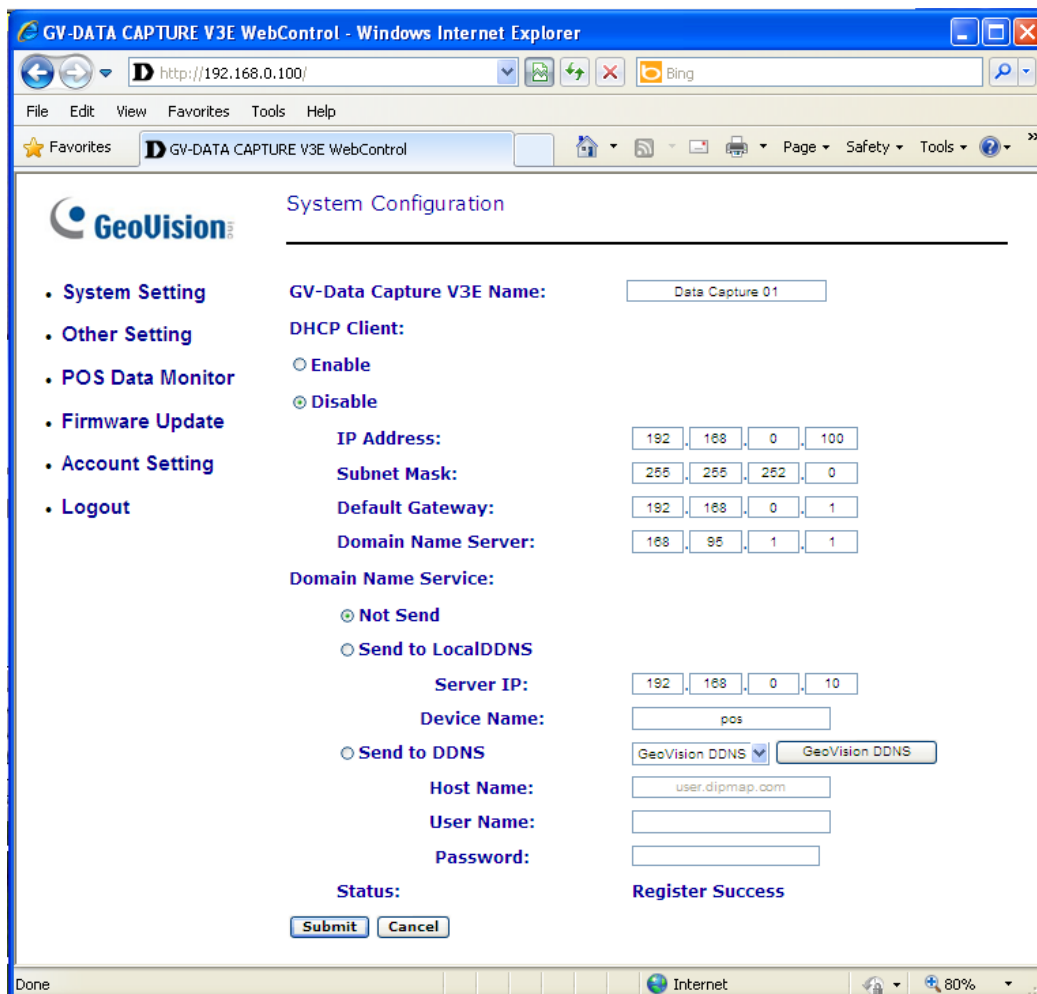

Figure 10
2. In the User Name and Password fields, type default value **admin** and **1234** respectively, and click **OK**. The GV-Data Capture V3E Web interface (see *Figure 10*) appears.
1. In the left menu pane, click **System Setting**, and then click the **GeoVision DDNS** button (see *Figure 10*). Or open an Internet browser, and type the web address <http://ns.dipmap.com/register.aspx>. This page appears.
1. Follow the Steps 1 to 2 in *4.1.1 Fixed IP* above. The GV-Data Capture V3E Web interface (see *Figure 10*) appears.